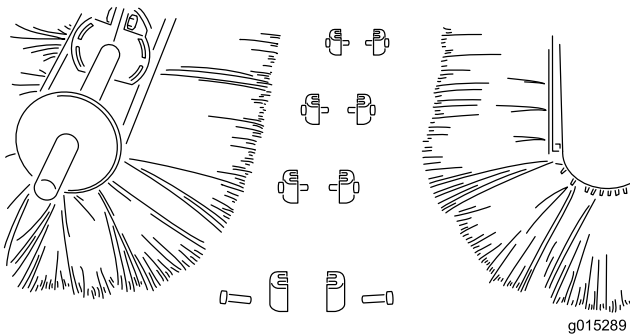

Figure 37
3. Separate the brush halves and discard the damaged section(s) (Figure 37).